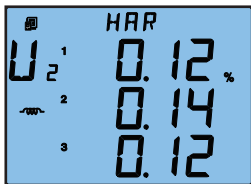

Fig.3-30 2nd harmonic rate of phase voltage
As in fig.3-30, U1\_Hr2=0.12%, U2\_Hr2=0.12%, U3\_Hr2=0.12%.
**Note:** when the wiring of voltage input is set to 2LL or 3LL, there is no harmonic rate of phase voltage; the harmonic rate of line to line voltage will be shown as in Fig.3-30.